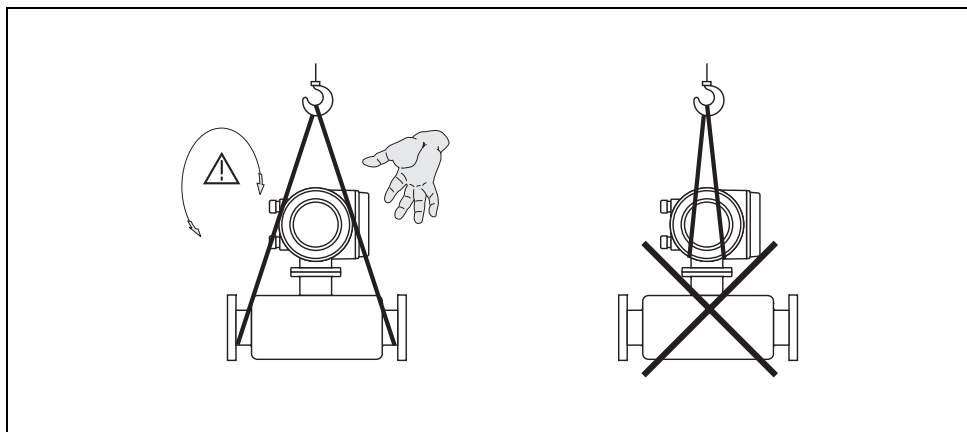

Fig. 5: Instructions for transporting sensors with $> \text{DN } 40$ ($> 1\frac{1}{2}$ ")
- Do not lift measuring devices of nominal diameters $> \text{DN } 40$ ($> 1\frac{1}{2}$ ") by the transmitter housing or the connection housing in the case of the remote version (Fig. 5). – Use webbing slings slung round the two process connections. Do not use chains, as they could damage the housing.